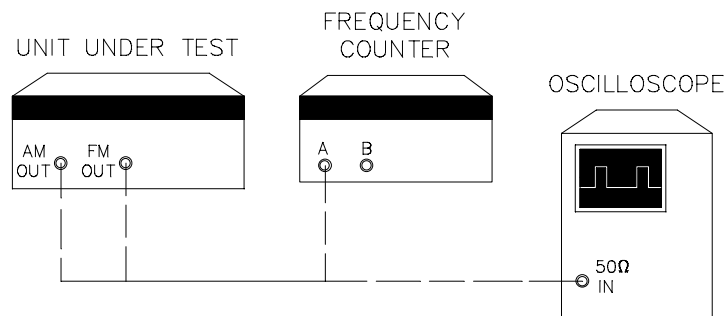

Figure 4-11. Internal Modulation Generator Tests
1. Connect the equipment as shown in Figure 4-11. Allow about 20 minutes warm-up time. The AM and FM generator outputs are on the rear panel of the UUT.